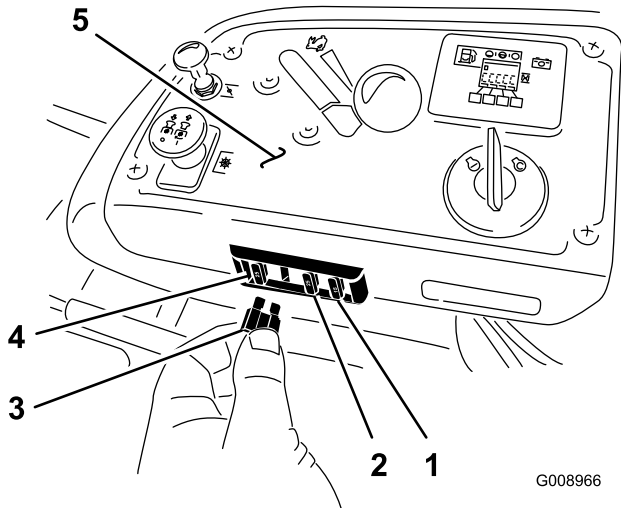

Figure 63
The fuses are located on the console to the right of the seat (Figure 63).
2. Install a new fuse (Figure 63).